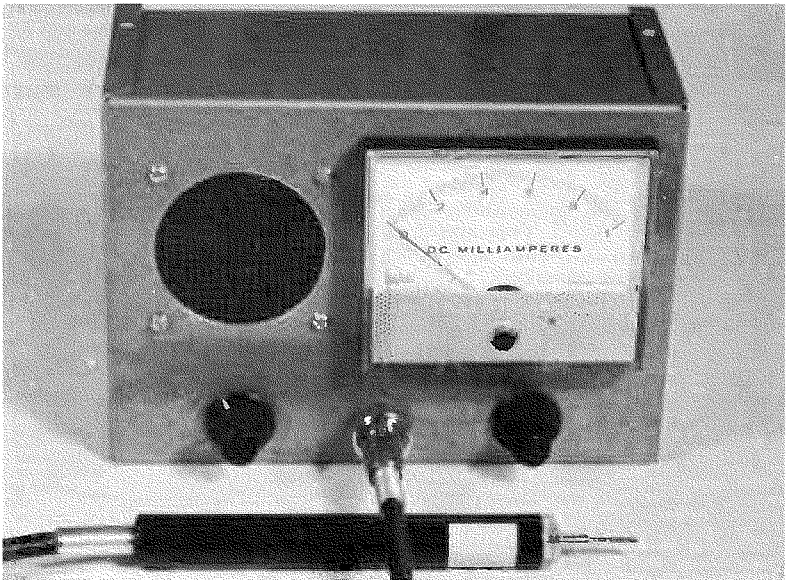
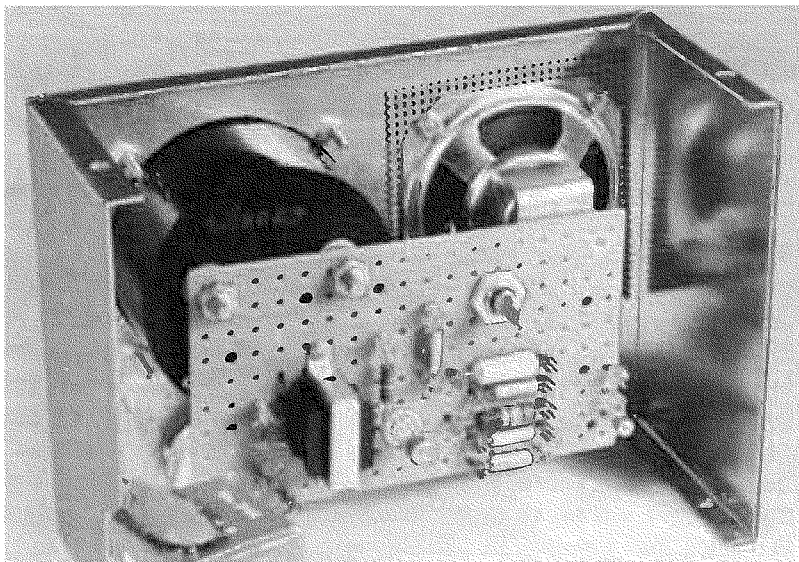

Fig. 7-1. Overall view of the AF-RF signal tracer.
Fig. 7-2. Inside view of the signal tracer
Fig. 7-1 is an outside, overall view of the signal tracer with one of the two test probes plugged in. Fig. 7-2 shows the inside
This instrument is built in a 7-inch x 5-inch x 3-inch gray hammertone aluminum box (Bud CU-2108-A *Minibox*, Allied No. 736-3641). The meter is a 3½-inch rectangular 0-1 DC milliammeter (Allied No. 701-0020) and the speaker a 3-inch unit (Allied No. 40 B 1201). The circuit is wired on a 2¾-inch x 4¾-inch perforated board which is supported by the two ¼-inch terminal screws on the back of the meter (Fig. 7-2). All components are on this board, except gain-control potentiometer R1, speaker switch S2, and input jack J1, which are on the front panel. (In Fig. 7-1, the speaker switch is under the speaker, and the gain control is under the meter.)
pull power output). An outboard 2N4340 field-effect transistor (FET), Q1, has been inserted as a source-follower between input jack J1 and the IC, to provide high input impedance for negligible loading of a circuit under test. (The net input impedance is approximately 1-megohm, the resistance of potentiometer R1.) The leads of the FET are soldered to three push-in terminals on the board (Fig. 7-5A); no transistor socket is required. The circuit draws 13 mA at zero signal, and 88 mA at maximum signal. At this drain, the heavy-duty 9-volt transistor battery seen in Fig. 7-2 will be satisfactory for
The main circuit is assembled on a 2 $\frac{3}{4}$ -inch x 4 $\frac{3}{4}$ -inch piece of perforated phenolic board (Allied No. 977-0923). Figs. 7-1, 7-5A, and 7-5B show layout of components on this board. All resistors and capacitors except R3, as well as diode D1 and transistor Q1, are soldered above board to Vector T9.4 push-in terminals (Allied No. 977-1206) which are simply pressed into the holes of the board. Resistor R3 is soldered between terminals 14 and 15 under the board, as shown in Fig. 7-5B. Potentiometer R6 and the IC socket (Augat 8058, Allied No. 718-0285) are mounted in $\frac{3}{8}$ -inch diameter holes drilled in the board. The board is held by the terminal screws of the meter. All wiring is under the board. On the front panel are mounted potentiometer R1 (and its ON-OFF switch, S1), input jack J1, meter M1, speaker SPKR, and speaker switch S2. Numbers on Figs. 7-5B and 7-6 show how connections are made between the board and these components.
6. Assemble and wire the two test probes, attaching a concentric plug on the end of each shielded cable (one plugged-in probe is shown in Fig. 7-1).